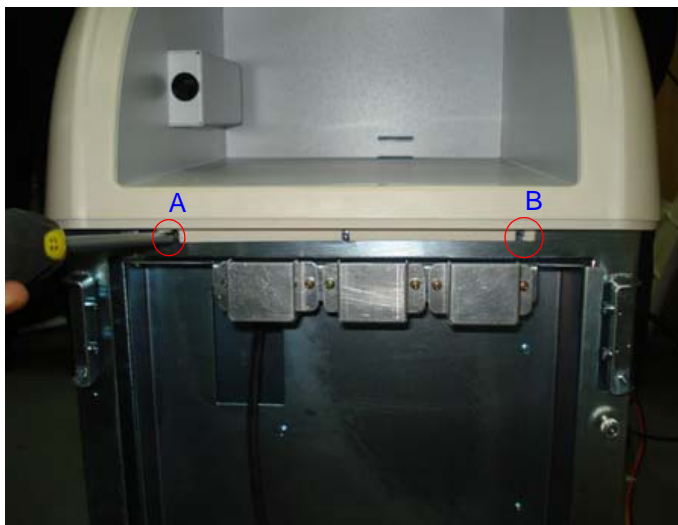

Figure 8-30 Top cover
- 5) loosen two screws (A.B) in front side of top cover from the system. Refer Figure 8-30 on page 8-32